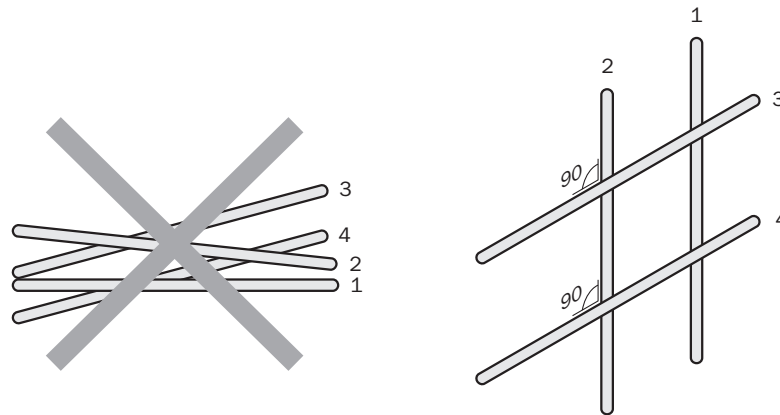

Figure 5: Cross cables at right angles
- ▷ Cables in groups 1, 2 and 3, 4 must be crossed at right angles, see figure 5.